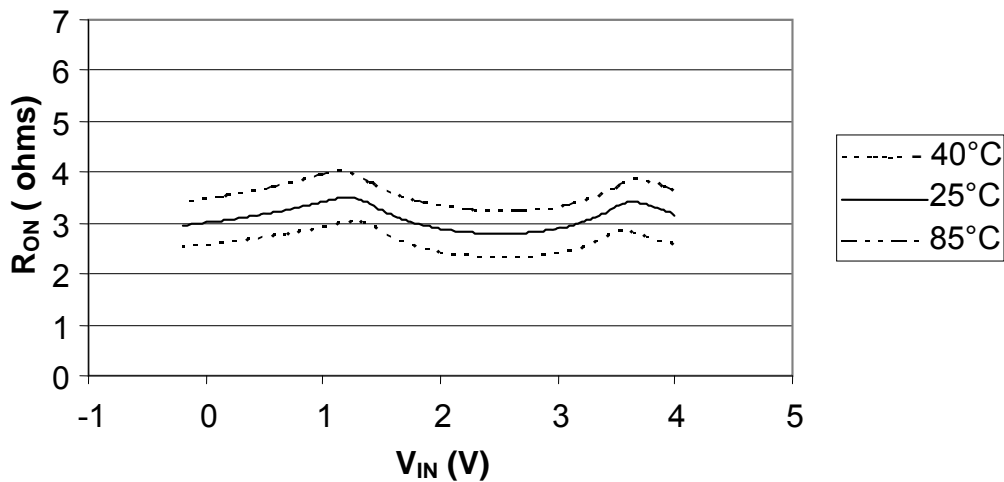

Figure 6.  $R_{ON}$  USB Characterization ( $R_{ON}$  USB D+)
| R ONUSB       | FS Switch On Resistance (4)                  | 4.25   | V D+/D- =0V, 3.0V, I ON =-8mAFigure 6, Figure 13   |                                 | 3    | 6                  | Ω    |